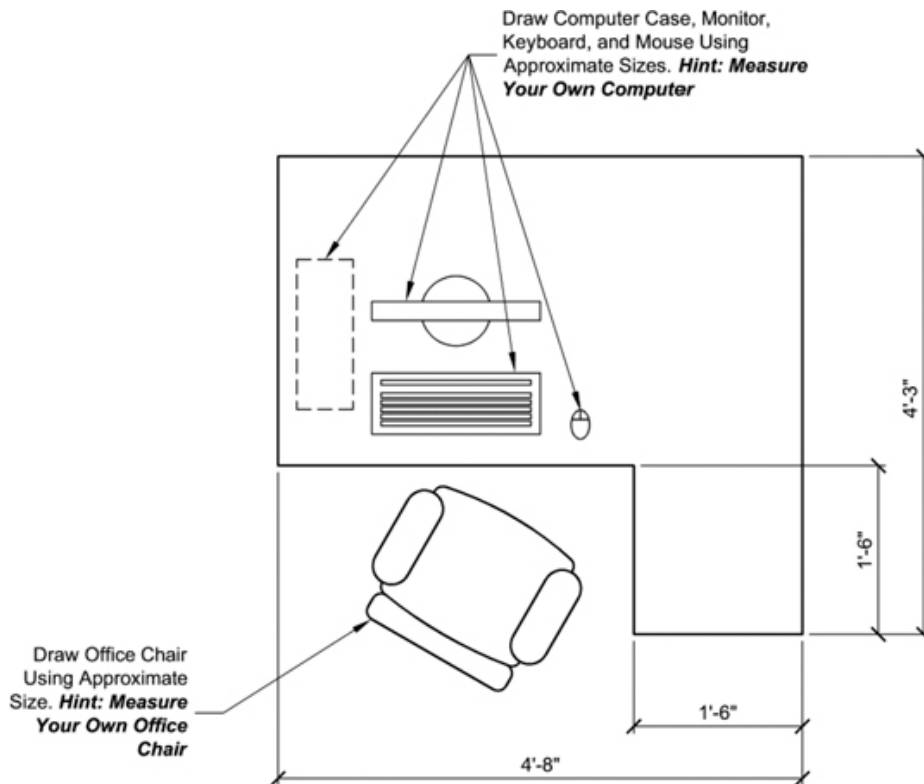

Figure 6-38
3. Draw the desk, monitor, computer tower, mouse, chair, and keyboard shown in Figure 6-38. Draw the desk on the **A-Furn** layer. Place the computer on the **A-Eqpm-Hidden** layer. Place all other objects on the **A-Eqpm** layer.